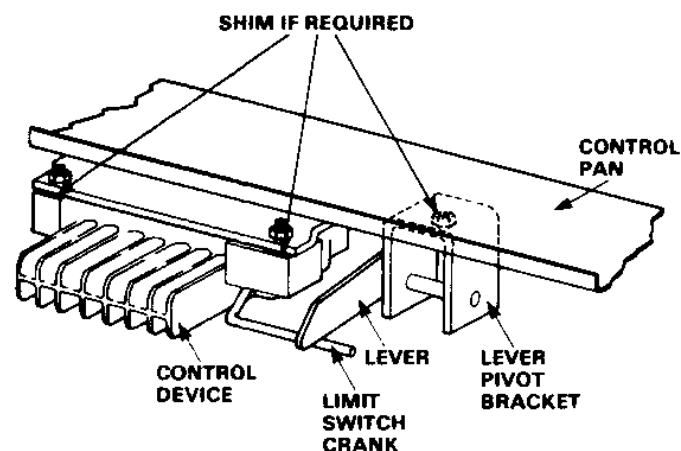

Fig. 6 - Control Relay
**5.10 CONTROL RELAY ADJUSTMENT (See Figure 6)**
The control relay does not normally require any adjustment in the field. The gap between the control device lever and the limit switch crank should be between 0.06" and 0.09" with the closing springs charged. If the gap measurement is incorrect adjust all 5HK circuit breakers except 5HK350, 3000 by shimming either at the lever bracket or the control device mounting screws as illustrated in Figure 6. Before changing shims at the two control device screws, loosen all three screws, replace shims and then tighten all three screws. The 5HK350, 3000 is adjusted by means of an adjusting head screw fastened to the lever.